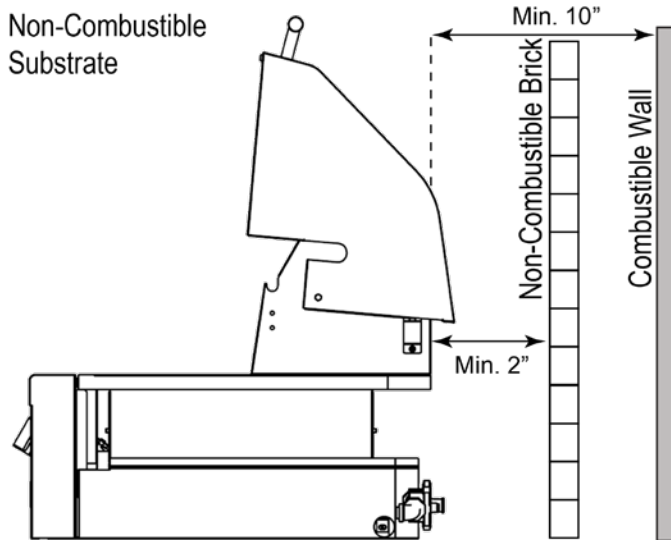

Figure 3
The grill must have a minimum of 10" clearance from the right side, left side and rear (back) of the grill from a protected combustible wall. Refer to Figure 3 (Page 7).
**Clearance from the grill and protected combustible wall** (i.e. A non-combustible wall in front of a combustible wall to serve as a barrier. This can be accomplished by brick or a metal stud finished with non-combustible substrate. See Figure 3). The grill must have a minimum of 10" right, left and rear clearance from the protected combustible wall. ( 2" non-combustible material clearance, plus an additional 8" clearance between the grill and protected wall.)